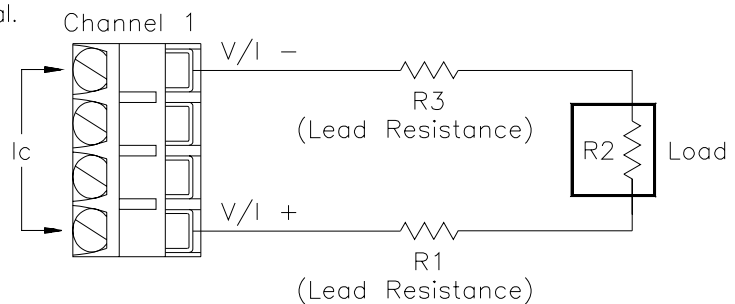

Figure 4-2. Output Voltage Compliance Current
4. Verify that the compliance current will not be exceeded by calculating the total circuit resistance using Figure 4-2.